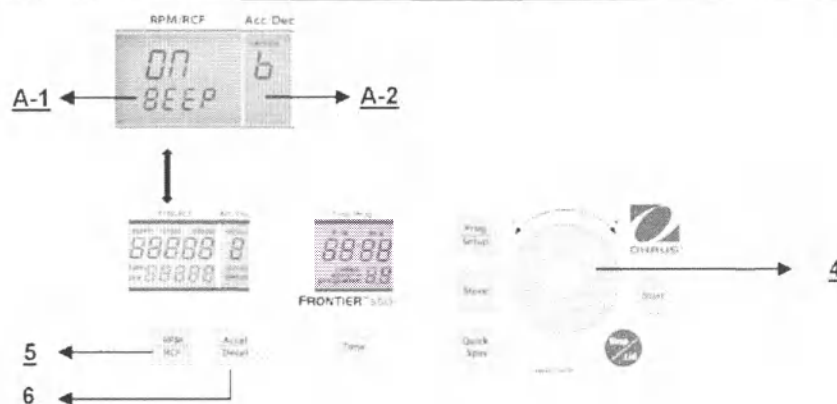

Figure. 33
Proceed as described under point 4.1.2 to enter this program mode and then press the key **"Accel/Decel"** (6). In the display **"Acc/Dec"** (A-2) the word **"Service"** flashes. Now select the letter **"B"** with the adjusting dial (4). As a result, in the display **"RPM/RCF"** (A-1), the word **"ON/BEEP"** appears. After pressing the key **"RPM/RCF"** (5), you can turn the keyboard sound (On) or (Off) with the adjusting dial (4). (See figure 33).